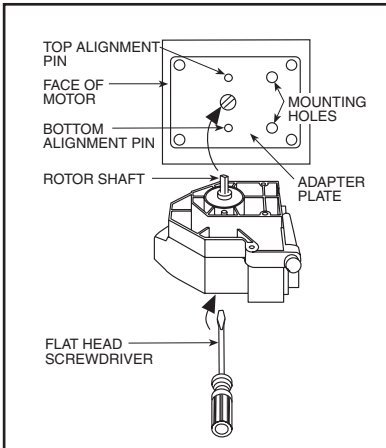

Figure 3-10. Aligning the Pump with the Plate
4. Refer to Figure 3-10 and Figure C. Place the blade of a flathead screwdriver in the groove of the Rotor Shaft (5). Rotate the Rotor Shaft until its back tab slips into the groove of the motor shaft. Do not try to force the pump onto the motor until you perform Step #5.